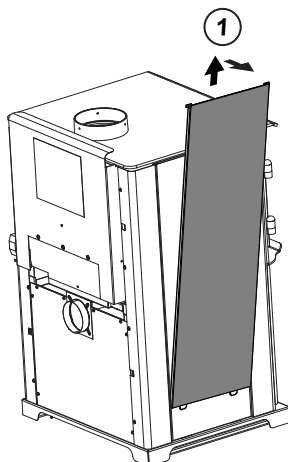

Figure 17.4
1. Remove solid panel from side by lifting up and pulling away from appliance (use a flat tool to pry from bottom if needed) (**Figure 17.4**).
2. Remove tile frame from side by lifting up and pulling away from appliance (**Figure 17.4 reference solid side panel removal**).